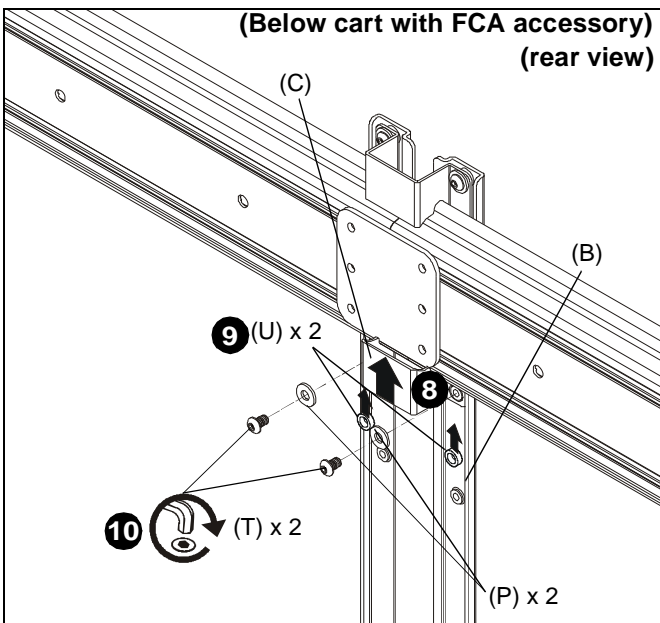

Figure 12
8. Slide second support bracket (C) underneath cart mount head assembly, lining up holes in support bracket (C) to holes on main bracket (B). (See Figure 12)
9. Slide two 3/5" spacers (U) in between support bracket (C) and main bracket (B). (See Figure 12)
10. Use two 1/4-20 x 7/16" button head cap screws (T) and two large washers (P) to secure support bracket (C) to main bracket (B). (See Figure 12)